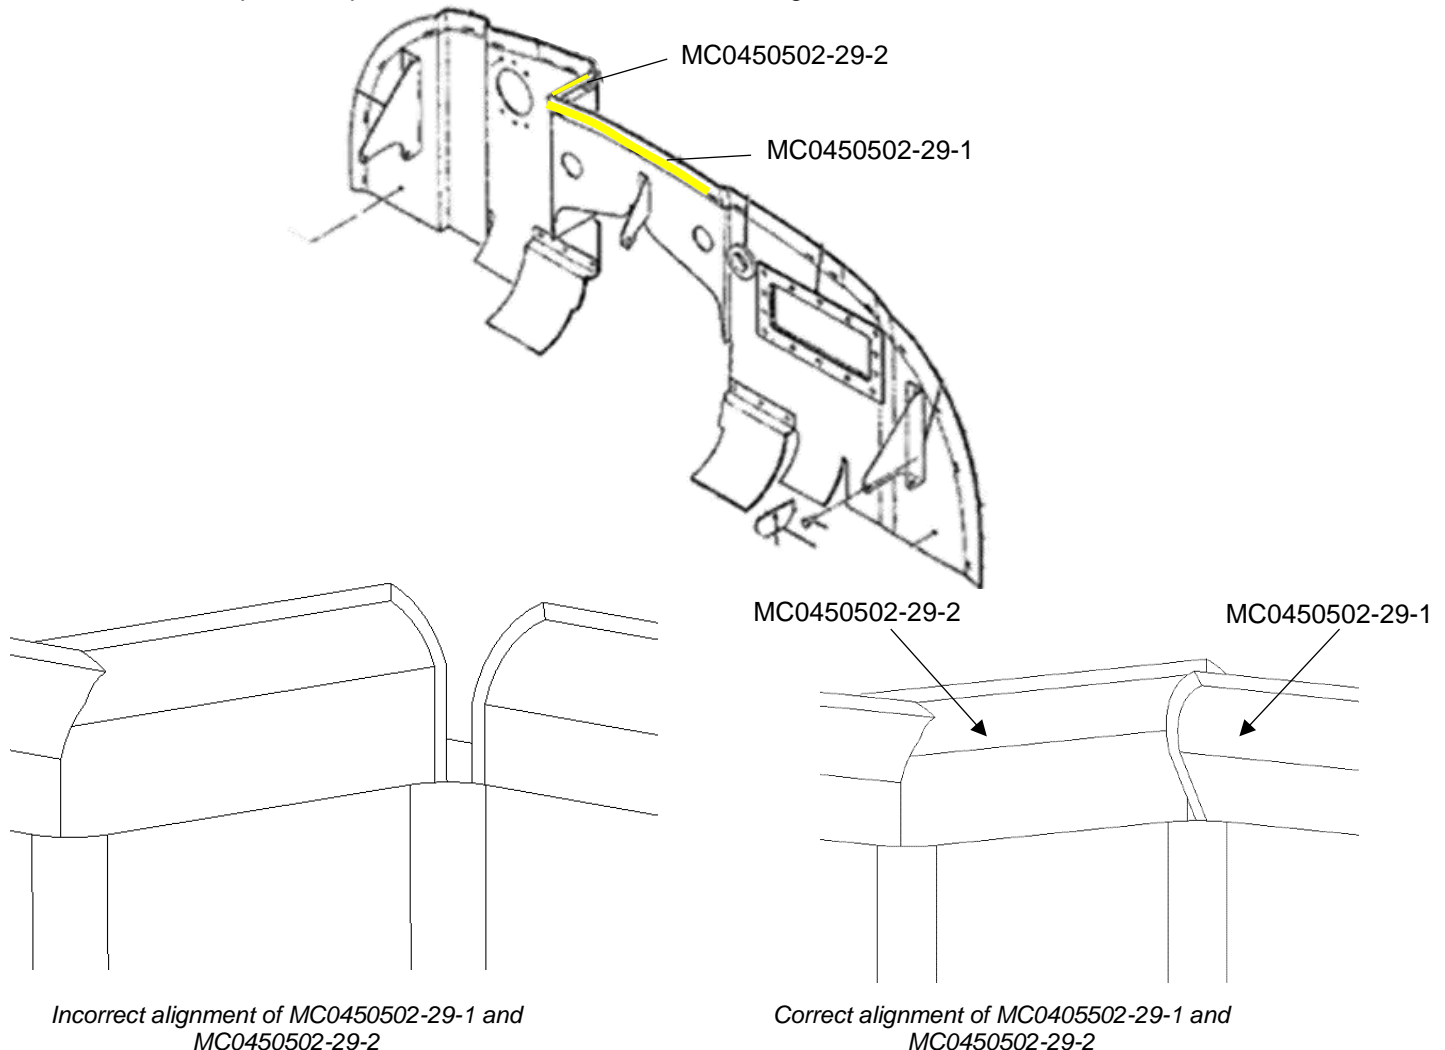

Figure 10: Special Installation Instructions for MC0450502-29
P/Ns MC0450502-29-1 and MC0450502-29-2 were designed so that there is extra material in the corner where they meet and make a right angle. The added material will allow for the seals to curve against the cowling while keeping the needed air tight seal. There should be an overlap of material when the cowling is reinstalled as seen in the right image of Figure 10. The left image shows how, if the seals are not mounted correctly, can create a gap at the turn that will cause poor recirculation of air.
2. 0450502-29 will be replaced with MC0450502-29-1 and MC0450502-29-2, See Figure 10 below for location and orientation of new seals.
3. Use Figure 10 for installation orientation and overlap of MC0450502-29-1 and MC0450502-29-2
Note: MC0450502-29-2 should overlap MC0450502-29-1 to create a seal between the seals as shown in Figure 10.